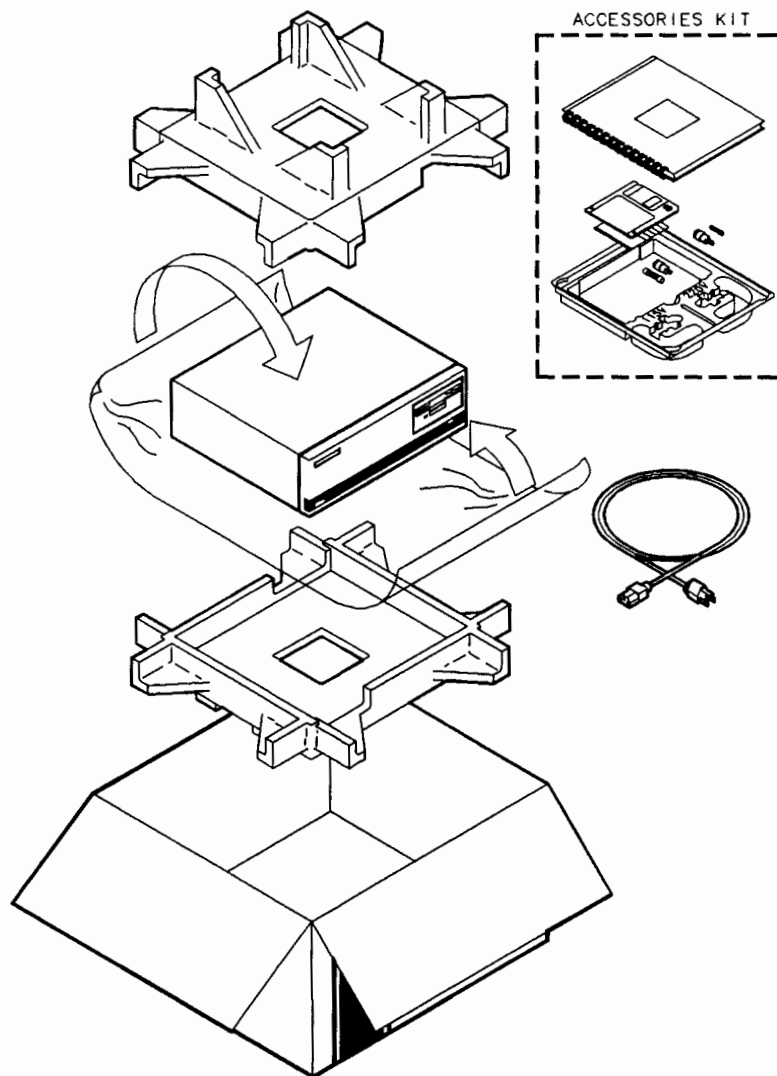

Figure 2-1. HP 9153C Packaging
- Always repackage the disc drive in approved packaging (see figure 2-1) when transporting the product from one area to another.